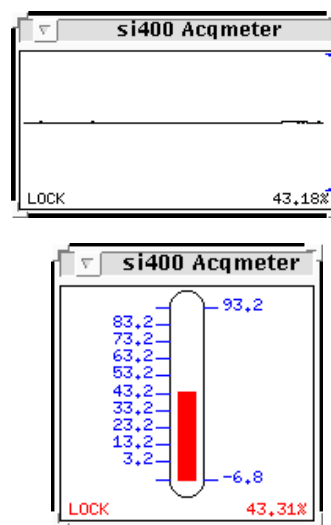

Figure 35. Acqmeter Lock Displays (acqmeter Program)
- To view the lock level with the Acqmeter window, enter `acqmeter` in the input window or `Acqmeter` in a UNIX shell. A window appears (shown in Figure 35) that begins showing the lock level. Clicking with the right mouse button inside the window opens a popup menu that allows you to display VT and spin information or open a properties window that allows you to alter the display (also in Figure 35).